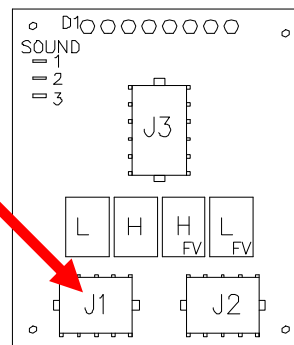

Figure 15
17. Remove the 12-pin J1 plug from the bottom left of the interface board (see Figure 15).